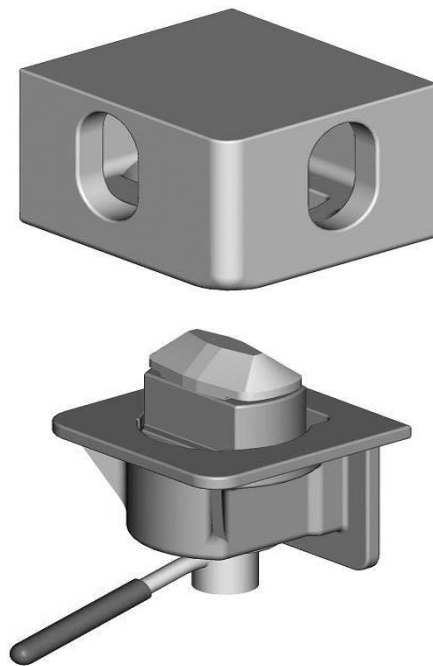

Figure 9
- 6.2.1 Four twistlocks mounted so the stems are vertical and can engage with the twistlock aperture of the corner fitting, as per figure 9.